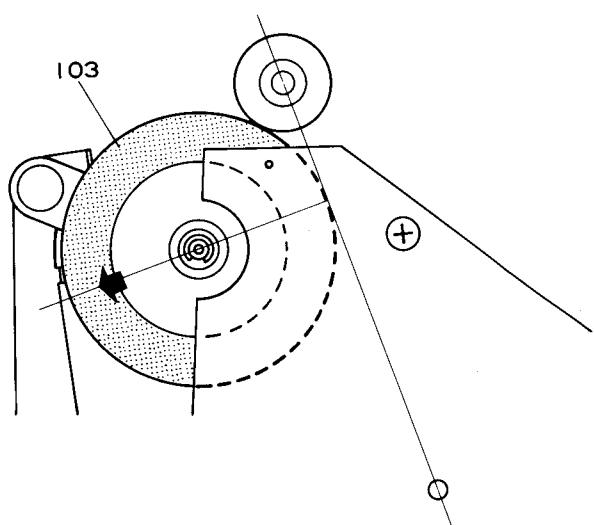

Fig. 10
*** IDLER PRESSURE ADJUSTMENT (Refer to Fig. 10)**
- (1) Supply power and shift the function selector knob (005) in playback position.
- (2) Shift the shut-off switch (SW7) in ON position by pressing the shut-off switch lever (104).
- (3) Pull the idler (103) in the direction at right angle to the line connecting the center of capstan shaft and motor pulley shaft.
- (4) If the set is normal, the pressure of the idler is 300 ± 50 g.
- (5) If the pressure is out of this range, adjust it by idler lever spring (109).